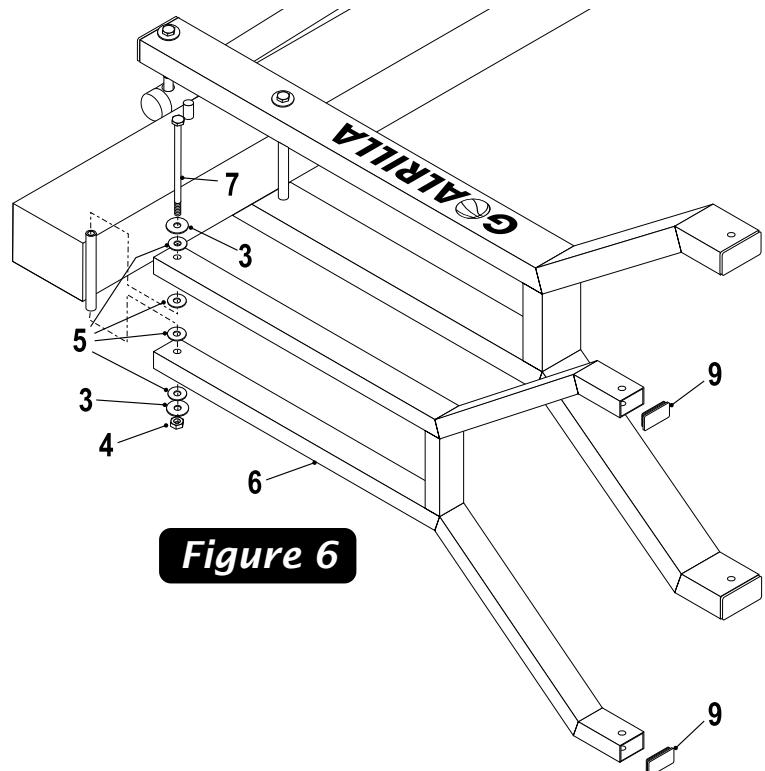

Figure 6
7. Attach Upper Arm (#6) to Pole (#2), as shown in Figure 6, using a bolt (#7), two flatwashers (#3), four plastic washers (#5) and hex nut (#4). Tighten bolts **snug but, do not over tighten**. Board Arms must pivot freely.